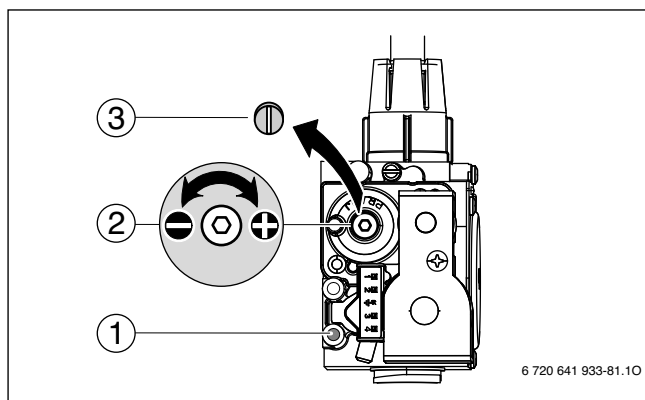

Fig. 59 Setting the CO2 or O2 values for minimum nominal output
- ▶ Remove screw (→ Fig. 59, [3]) from the gas valve adjustment screw (→ Fig. 59, [2]) and set CO2 or O2 value for minimum nominal output.
- ▶ Reinstall screw (→ Fig. 59, [3]) to cover the adjustment screw (→ Fig. 59, [2]) on the gas valve again.